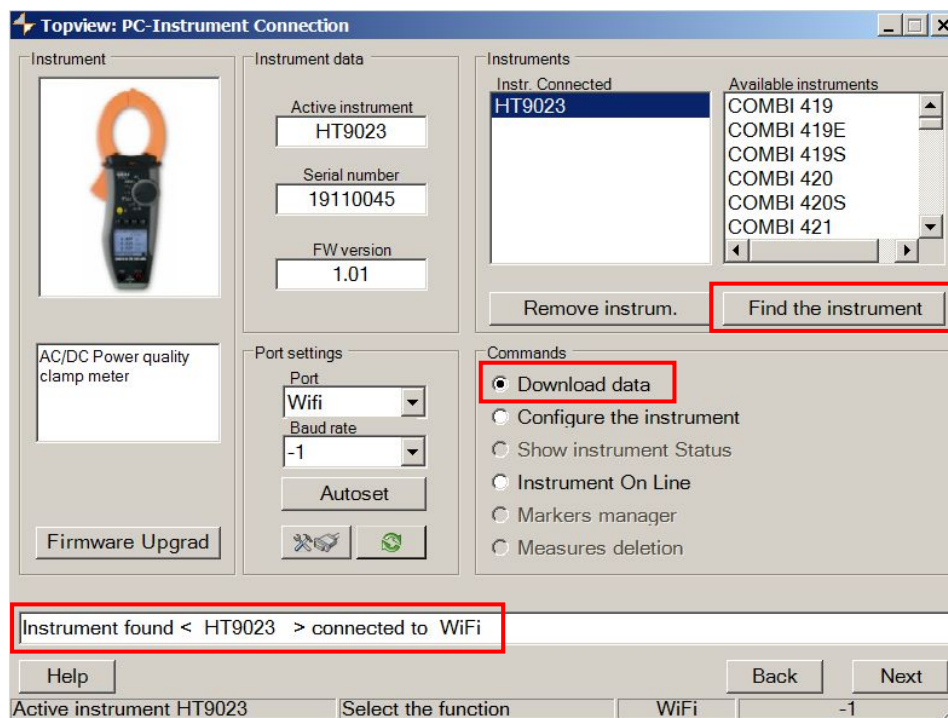

Fig. 16: Instrument detection inside software TopView
6. Launch the TopView software, open the "**PC-Instrument connection**" section, run the "Find the instrument" command and check recognition (see Fig. 16)